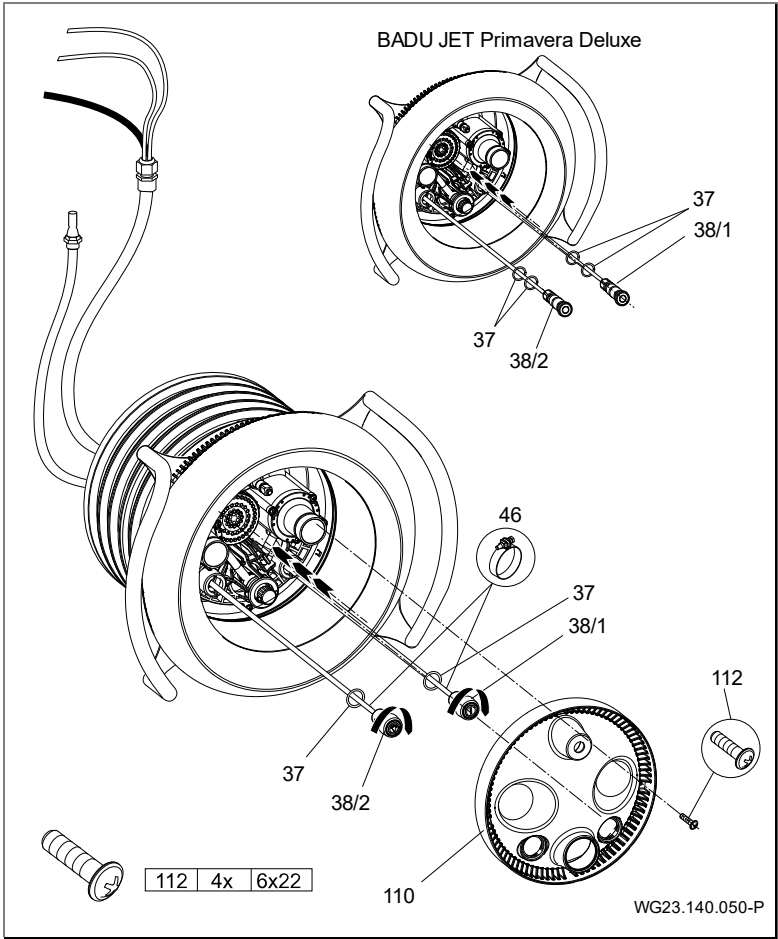

Fig. 20
8. Primavera: Push an O-ring (37) onto each pneumatic button (38/1; 38/2). Fasten the pneumatic hoses to the appropriate buttons with hose clips (46). Insert both pneumatic buttons into the nozzle housing and lock by turning clockwise. (Fig. 20)
11. Align the light cover (110) central to the nozzle housing (102.1) and fasten with four tapping screws (112). (Fig. 20)